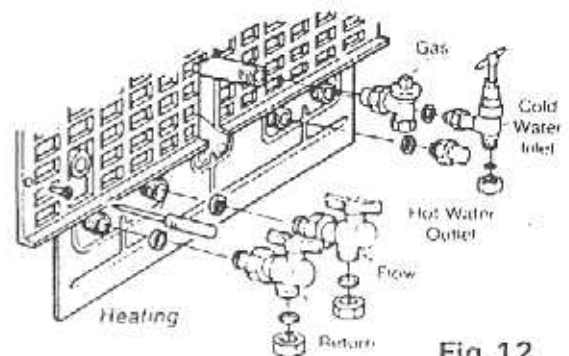

Fig. 12
5.3.4 Loosely fit (hand tight) the valves and fittings using the washers supplied (Fig. 12)
5.6.1 Figs.12 and 16 show the locations of the fittings.